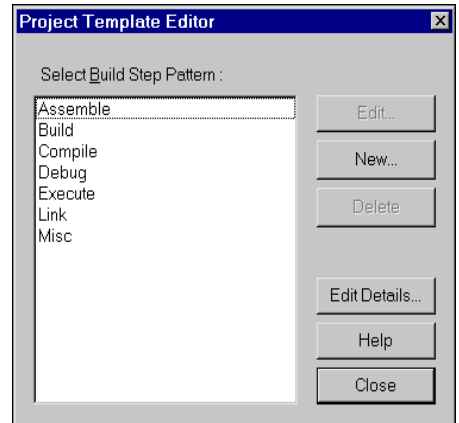

Figure 2-22 Project Template Editor dialog
1. Select **Edit Project Template** from the **Project** menu. The Project Template Editor dialog is displayed (Figure 2-22).